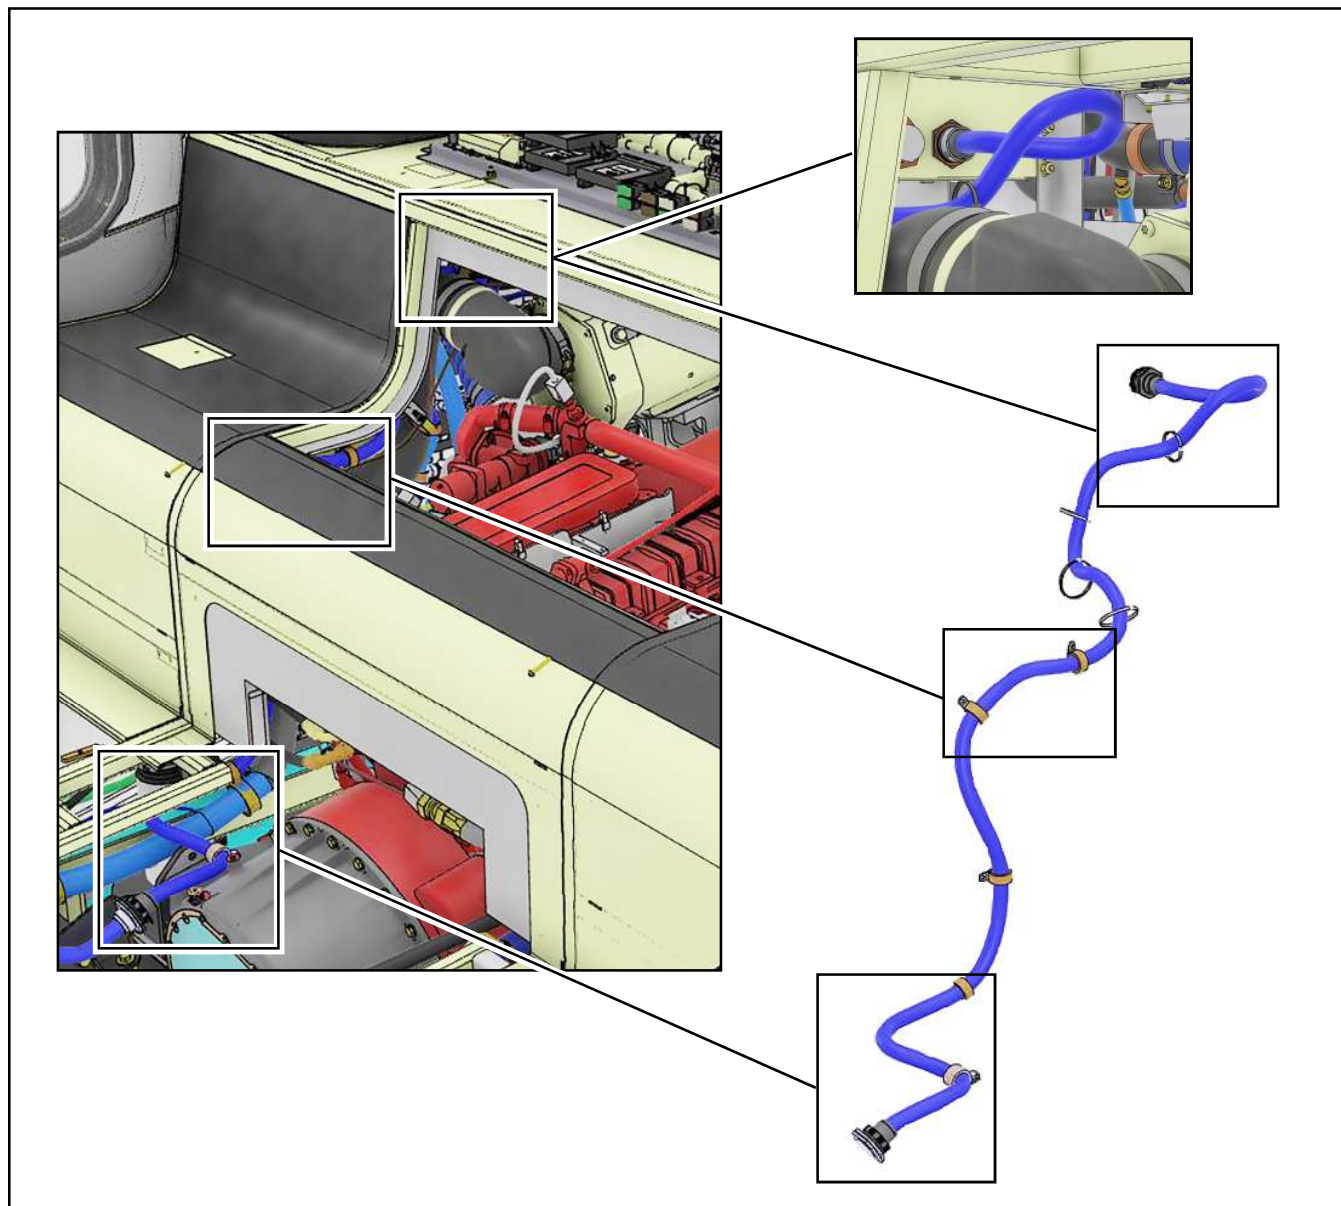

Figure 19 - N40216 Transmission Harness and P-clamps Locations
2.2.1. Remove the P-clamps (there should be 5) and the cable ties to free the damaged N40216 harness and replace it with N99235 harness (see Figure 19).